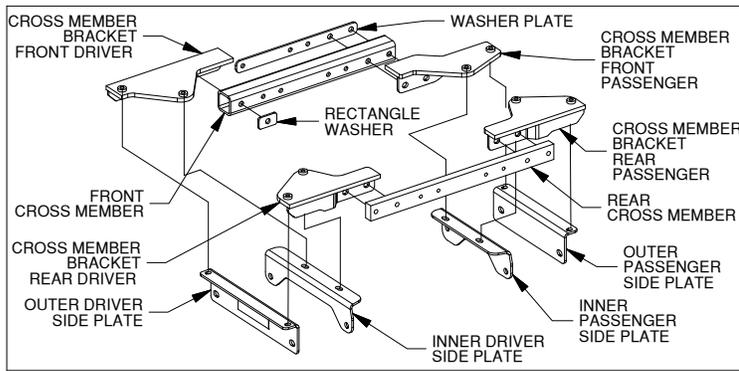
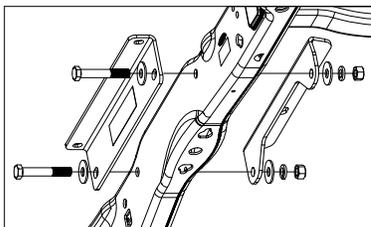
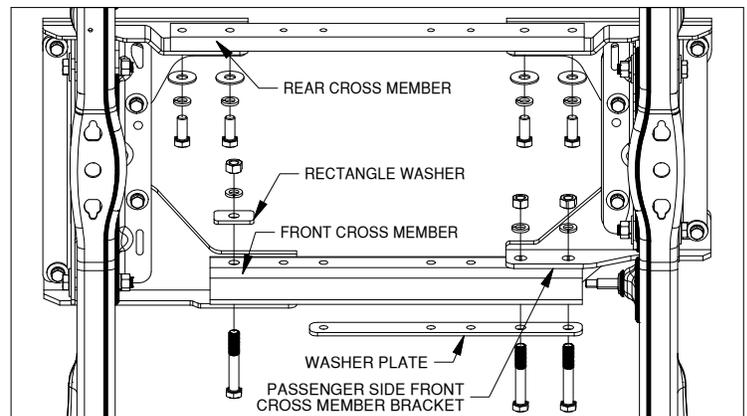

Figure B1: Side plates and Mounting Kit Exploded View
Figure B3: Driver Side Side plates
Figure B6: Bottom of truck frame looking up from the back of truck towards the cab
**3. Install Side Plates.** Locate the outer and if needed the inner side plates, see Figure B1. Install the side plates as shown in Figures B3 & B4, so that there is a side plate on the inside and outside of each frame member. Attach the side plates to the frame using 5/8" x 4" bolts, two flat washers, lock washer, and nut, as shown in Figure B3. Fasten hardware until the side plates are flush against frame.
**5. Install Cross Member Brackets.** Locate the four cross member brackets as shown in Figure B1, and the eight, 1/2" bolts with an added thread locker. Attach these brackets to the inner and outer side plates using these bolts. If the bolts with thread locker are cap screws without a flanged head, also add a flat and lock washer, see Figures B5.
**6. Install Front Cross Member.** Locate the front cross member shown in Figure B1. Inspect the front cross member tube, find the inside wall that contains the welded seam. Using the washer plate and two 5/8" X 4" bolts, attach the front cross member to the passenger side front cross member bracket so that the welded seam is positioned up against the bracket, see Figure B6. Next, attach the cross member to the driver side cross member bracket with 5/8" x 4" bolt, rectangle washer, lock washer and nut, as shown in Figure B6.
**7. Install Rear Cross Member.** Locate the rear cross member shown in Figure B1. Attach the rear cross member to the cross member brackets as shown in Figure B6 with 5/8" x 1-1/2" bolts, flat washers, and nuts.